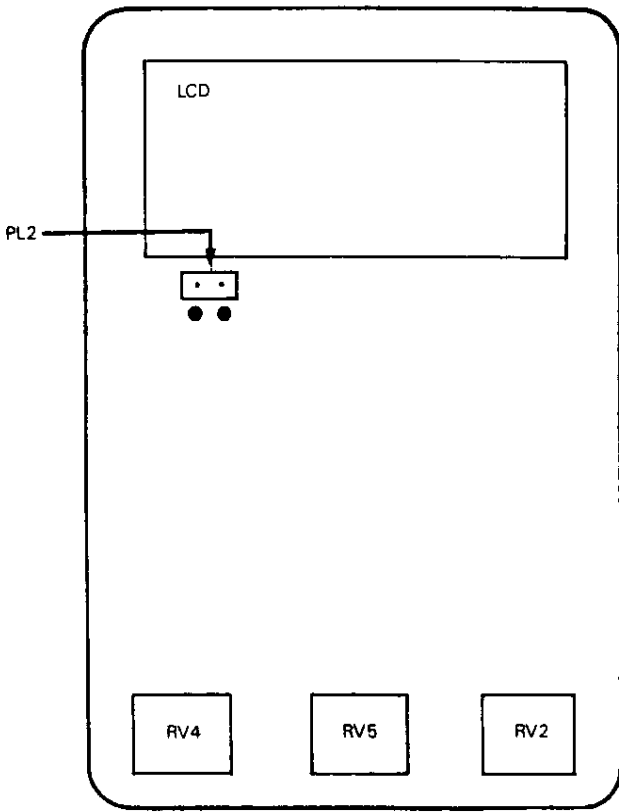

Figure 6-1 Temperature Calibration Pots and Input Connection Location for RH-200 F/C
2. Locate the 2 solder pins labelled PL2 on the component side of the PC board. Disconnect the 2 temperature sensor leads soldered to these points on the opposite side of the board. See figure 6-1 for component layout.
5. a. RH-200F: Set the resistance box to 32650 ohms. Set RV4 to display a maximum reading (for highest sensitivity) and adjust RV5 to give a reading of 32.0 (± 0.1). Seal the pot in position. Next set the resistance box to 5326 ohms and adjust RV4 to display a reading of 103.1 ± 0.1 . Seal the pot in position. See figure 6-1 for pot locations.
b. RH-201C: Set RV5 fully clockwise and seal. Set the resistance box to 5326 ohms and adjust RV4 for a display reading of 39.5 (± 0.1). Seal the pot in position. See Figure 6-1 for pot locations.